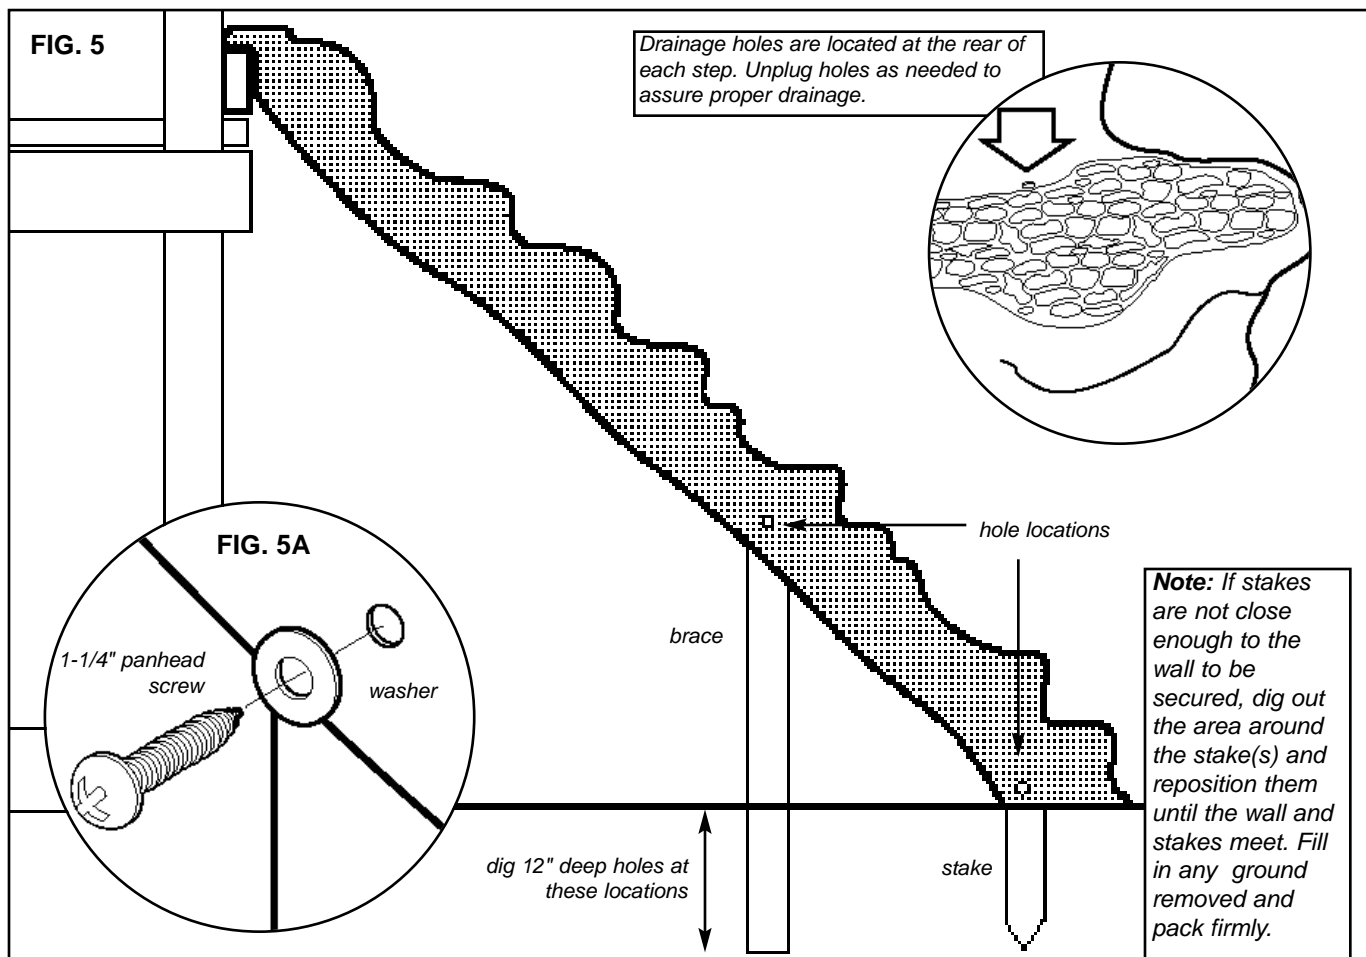

FIG. 5
7. Dig two holes approximately 12" below grade at the hole locations closest to the slide (see Fig. 5).